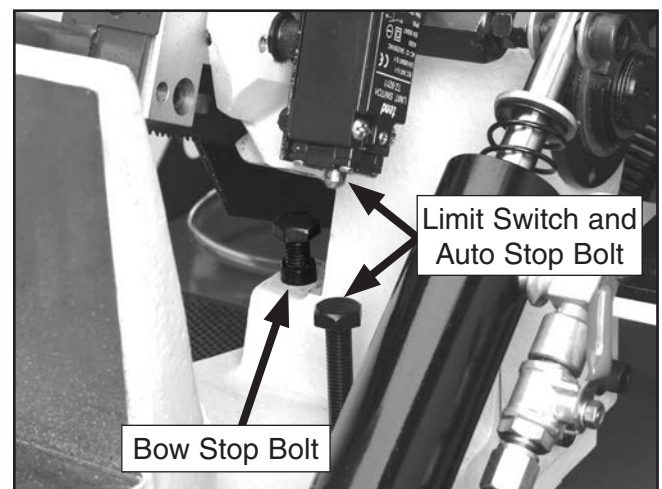

Figure 48. Auto stop.
14. Adjust the auto stop bolt and the bow stop bolt (**Figure 48**), so the bandsaw motor will stop when the blade teeth are just below the vise table surface.